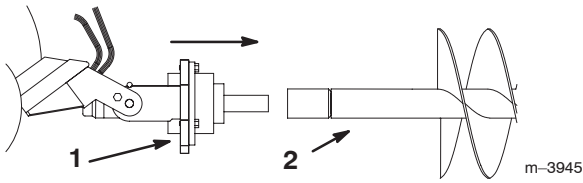

Figure 4
7. Maneuver the drive shaft into the end of the auger shaft or extension (if applicable) (Fig. 4).